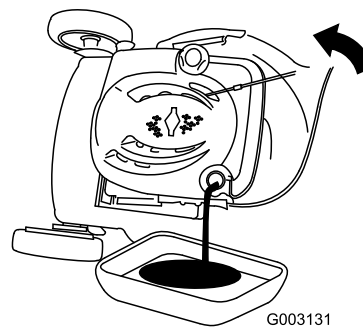

Figure 43
3. Tip the mower onto its side, with the air filter up, to drain the used oil out through the oil fill tube (Figure 43).